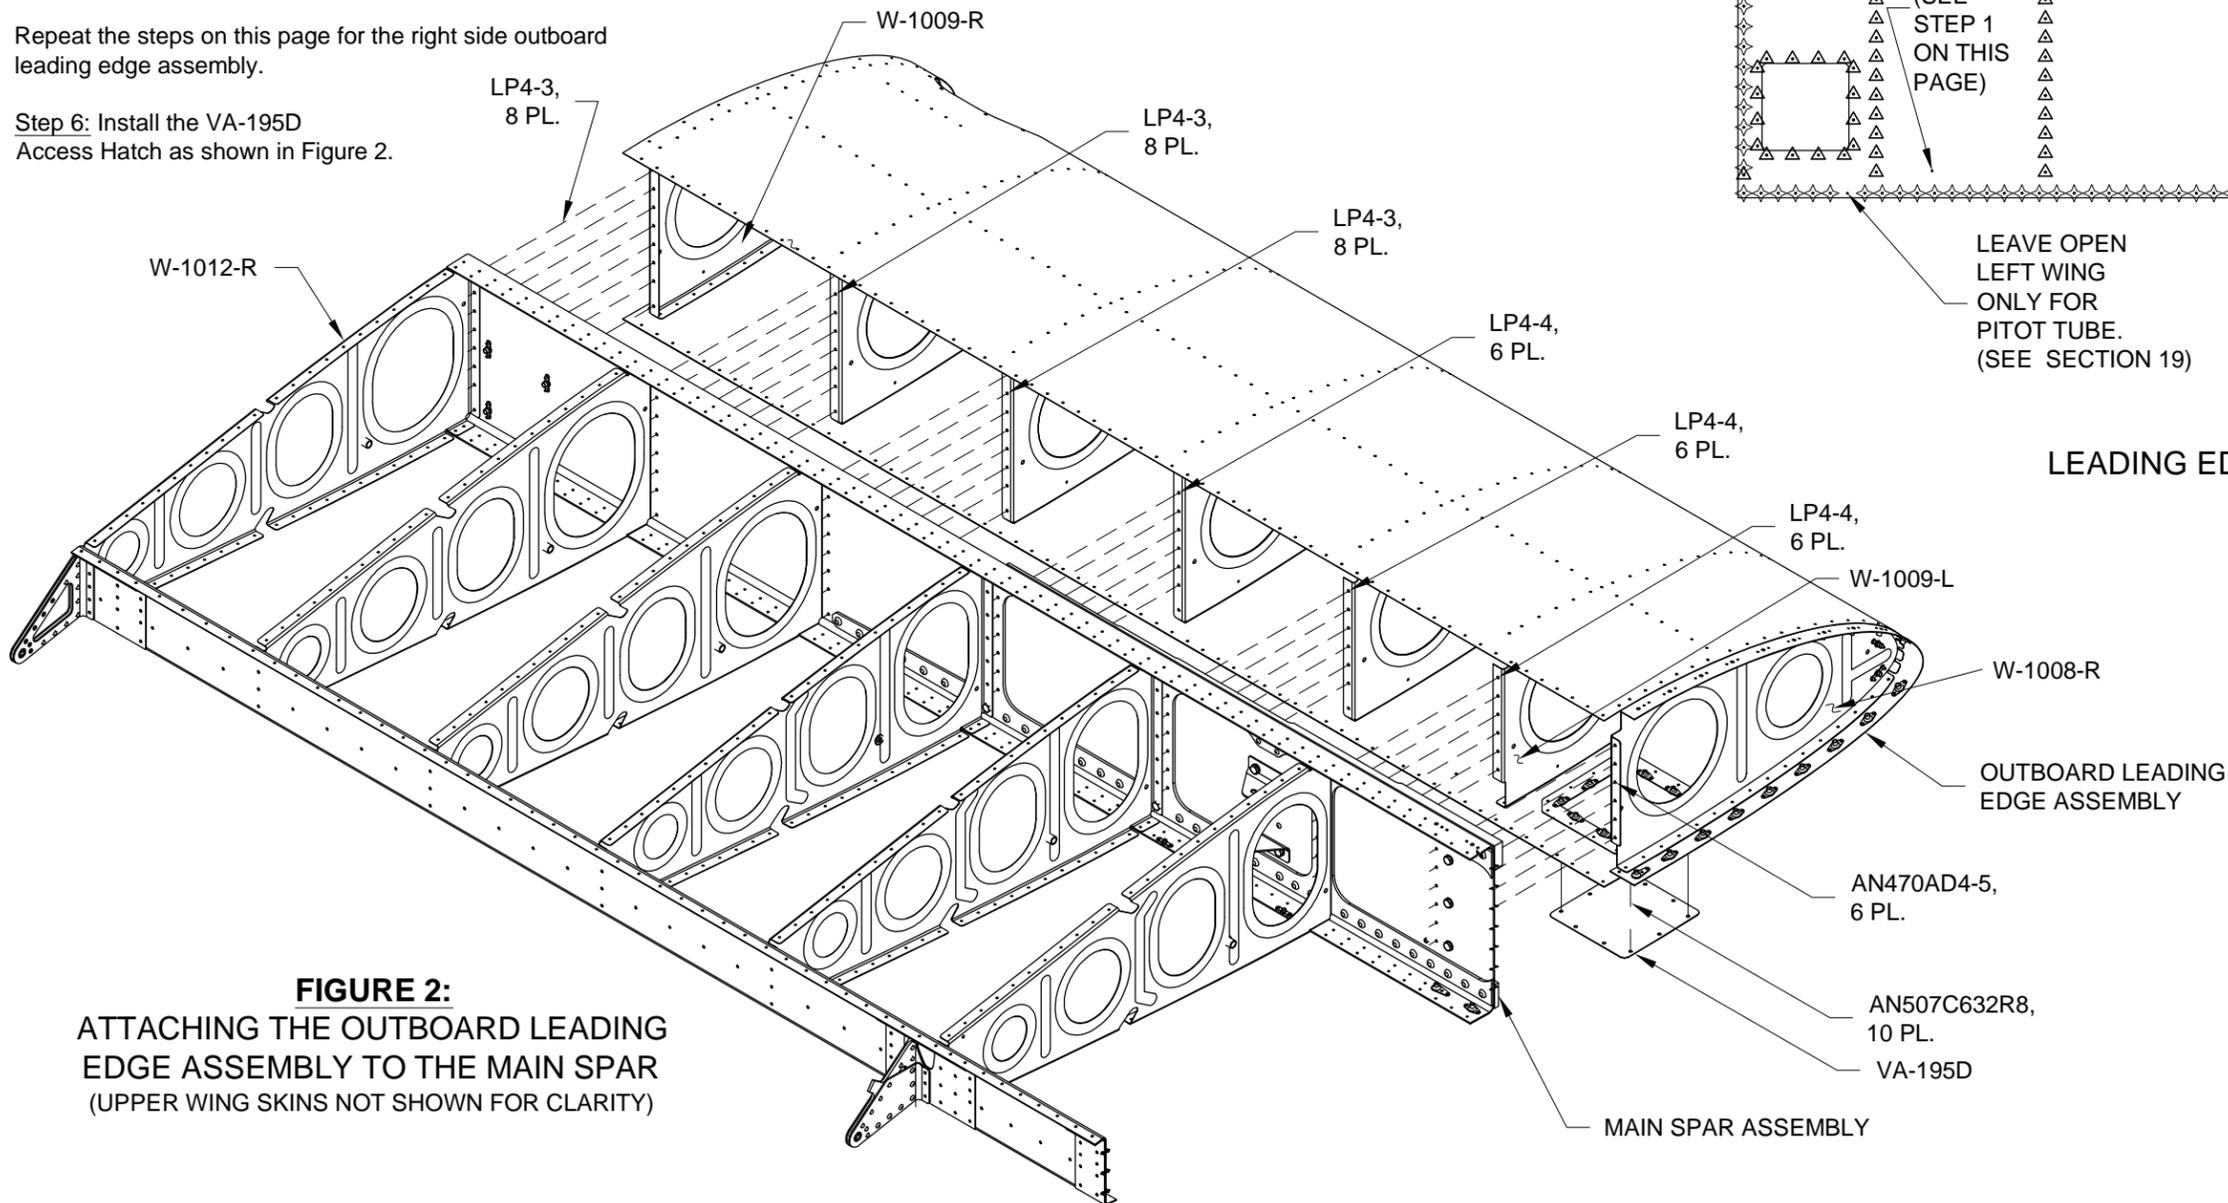

FIGURE 2:
Step 6: Install the VA-195D Access Hatch as shown in Figure 2.